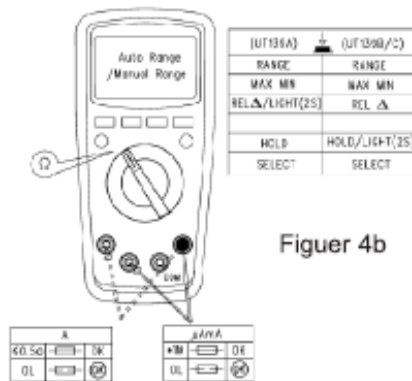

Figure 4b
- By using the resistance measurement function, it is allowed to make self-checking of the built-in fuse, see (Figure 4b).